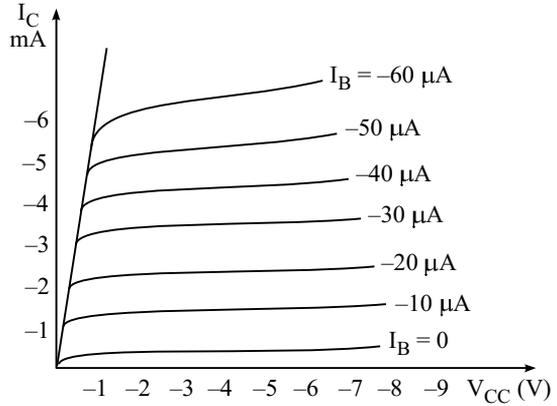

Fig 28.28 : Output characteristics of a typical *pnp* transistor in *CB* configuration
**How can we plot the output characteristics at  $I_B = 50 \mu\text{A}$ ?** To do so,  $V_{BE}$  is adjusted till milliammeter reads  $50 \mu\text{A}$ . Increase  $V_{CE}$  gradually and note corresponding values of  $I_C$ . The graph between  $V_{CE}$  and  $I_C$  gives the output characteristics at  $I_B = 50 \mu\text{A}$ . Similarly, the output characteristics can be obtained at  $I_B = 100 \mu\text{A}$ ,  $200 \mu\text{A}$  and so on. Fig. 28.28 shows output characteristics of *p-n-p* transistor for *CE* configuration.